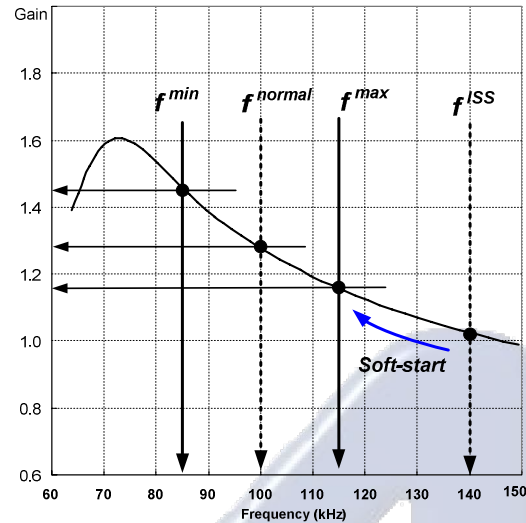
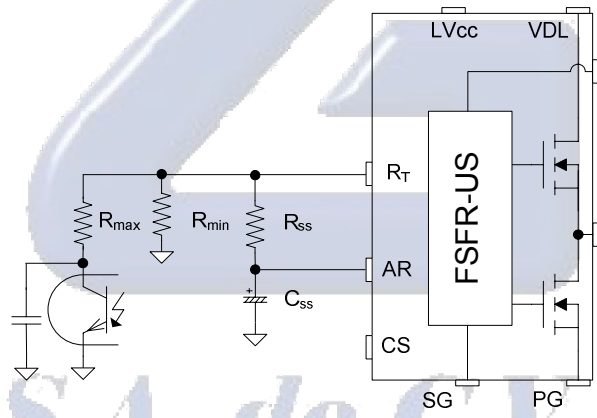
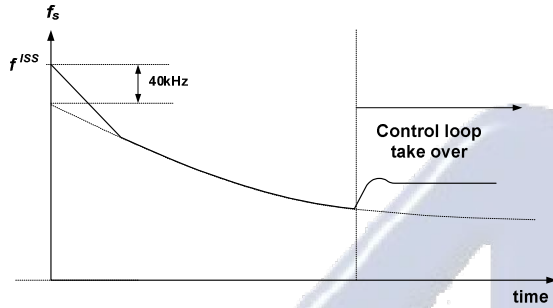

Figure 17. Resonant Converter Typical Gain Curve
Figure 18. Frequency Control Circuit
Figure 19. Frequency Sweeping of Soft-Start
**3. Frequency Setting:** Figure 17 shows the typical voltage gain curve of a resonant converter, where the gain is inversely proportional to the switching frequency in the ZVS region. The output voltage can be regulated by modulating the switching frequency. Figure 18 shows the typical circuit configuration for the RT pin, where the opto-coupler transistor is connected to the RT pin to modulate the switching frequency.
To prevent excessive inrush current and overshoot of output voltage during startup, increase the voltage gain of the resonant converter progressively. Since the voltage gain of the resonant converter is inversely proportional to the switching frequency, the soft-start is implemented by sweeping down the switching frequency from an initial high frequency ( $f^{ISS}$ ) until the output voltage is established. The soft-start circuit is made by connecting R-C series network on the RT pin, as shown in Figure 18. FSFR-US series also has an internal soft-start for 3ms to reduce the current overshoot during the initial cycles, which adds 40kHz to the initial frequency of the external soft-start circuit, as shown in Figure 19. The initial frequency of the soft-start is given as: